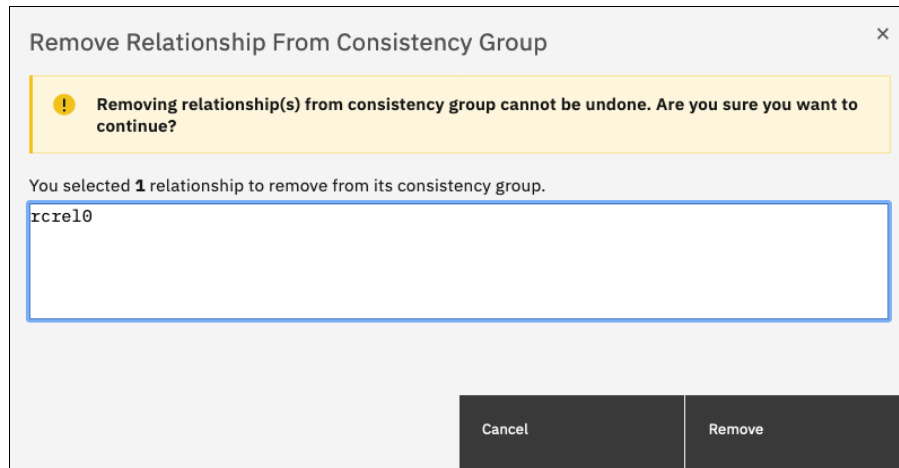

Figure 10-133 Confirming the removal of relationships from a consistency group
- Confirm your selection and click **Remove**, as shown in Figure 10-133.